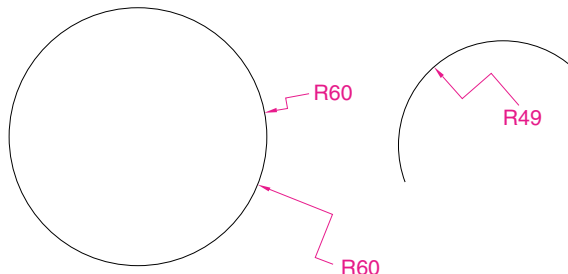

Fig. 6.21 Sixth example – the **Jogged** tool
Sixth example – the Jogged tool (Fig. 6.21)
1. Draw a circle and an arc as indicated in Fig. 6.21.
The results of placing a jogged dimension on a circle and an arc are shown in Fig. 6.21.